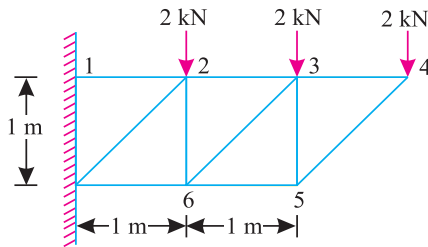

Fig. 14.38.
4. Find the forces in the members of the frame given in Fig. 14.38.